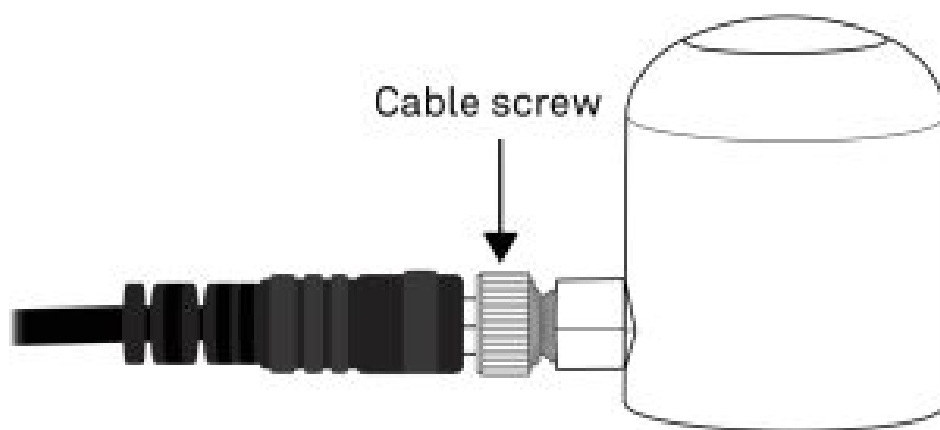

Figure 1: Attach M8 connector
2. Tighten the cable screw until hand-tight (**Figure 1**).